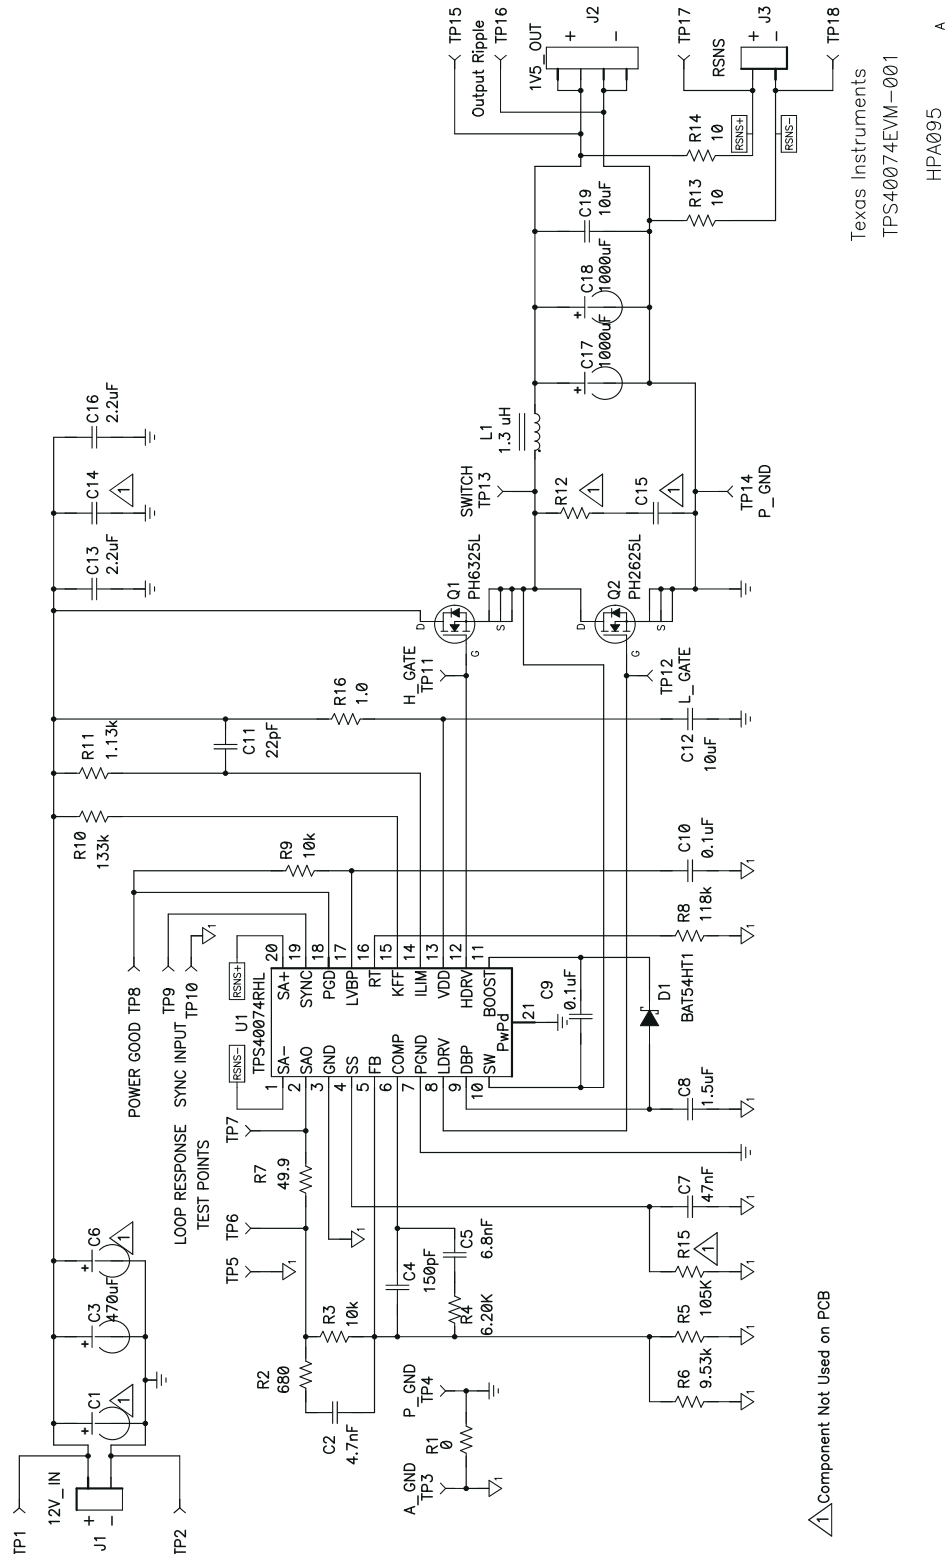

Figure 3-1. TPS40074EVM-001 Power Stage/Control Schematic Reference Only, See Table 3 for Specific Values
5. Connect LOAD1 to J2 as shown in Figure 3-1. Set LOAD1 to constant current mode to sink 0 A_{DC} before V_{12V_IN} is applied.